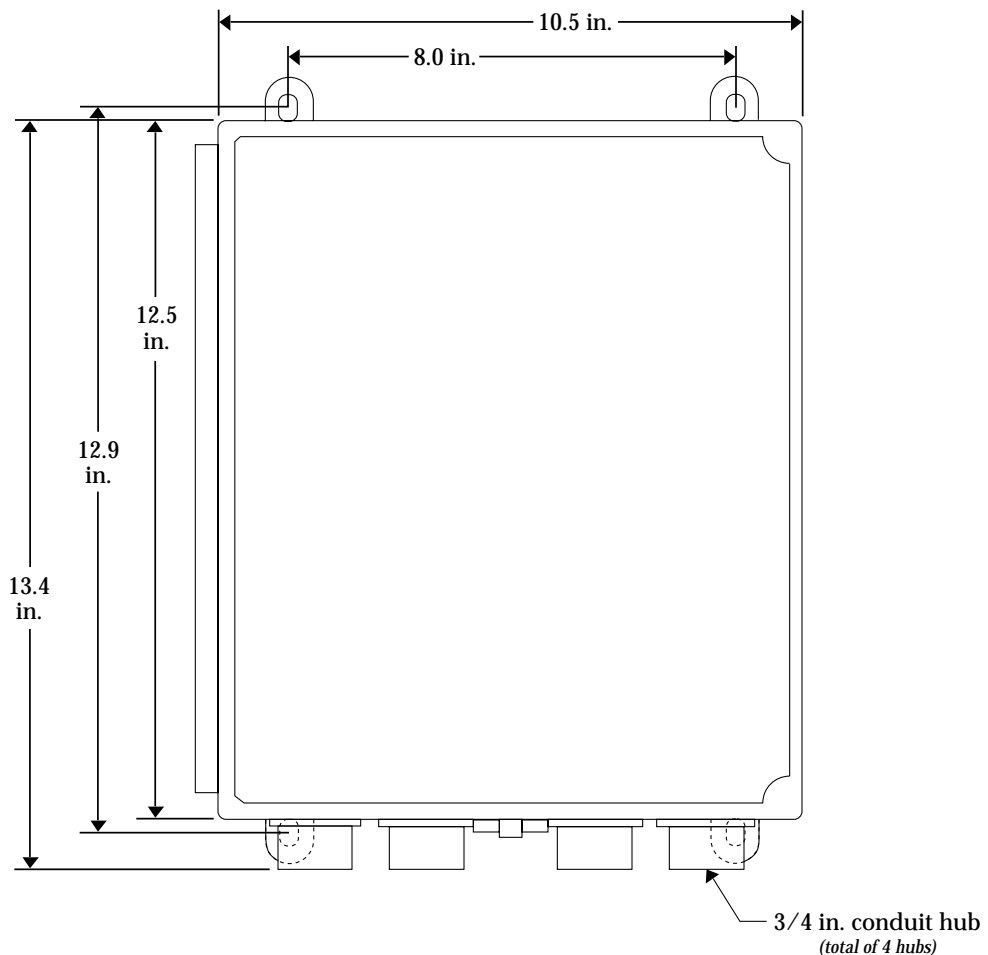

Figure 3-1: Pioneer Gas Monitor Outline and Mounting Dimensions
4. Insert 1/4 in. or 5/16 in. screws through the slots in the mounting feet at each corner of the housing to secure the housing to the mounting surface (see Figure 3-1).